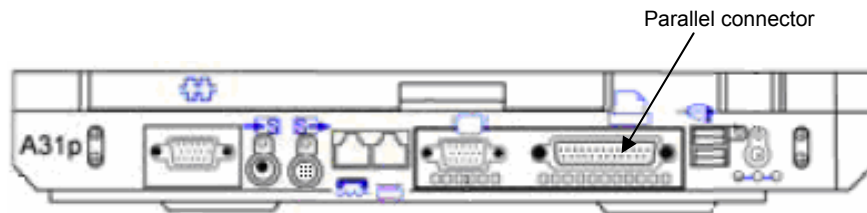

Figure 12-8.- Printer (top view/back view), PGSC (parallel port).
Connect AC PWR cable to Printer Power Port (see figure 12-8)
Connect RJ-45 network cable to Printer Network RJ-45 Port (see figure 12-8)
Connect parallel cable between Printer Parallel Port and KFX PGSC Parallel Port (see figure 12-8)
- Printer 3. Printer pwr – on (see figure 12-8)
| Network RJ-45 Port (see figure 12-8) |
(see figure 12-8) |